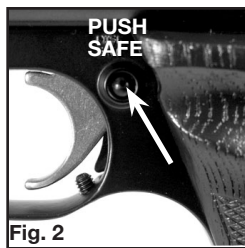

Fig. 2
- Push the safety from the left side all the way in (Fig. 2). The safety is not "ON SAFE" unless it is pushed all the way in and the RED ring around the left side of the safety is NOT showing.